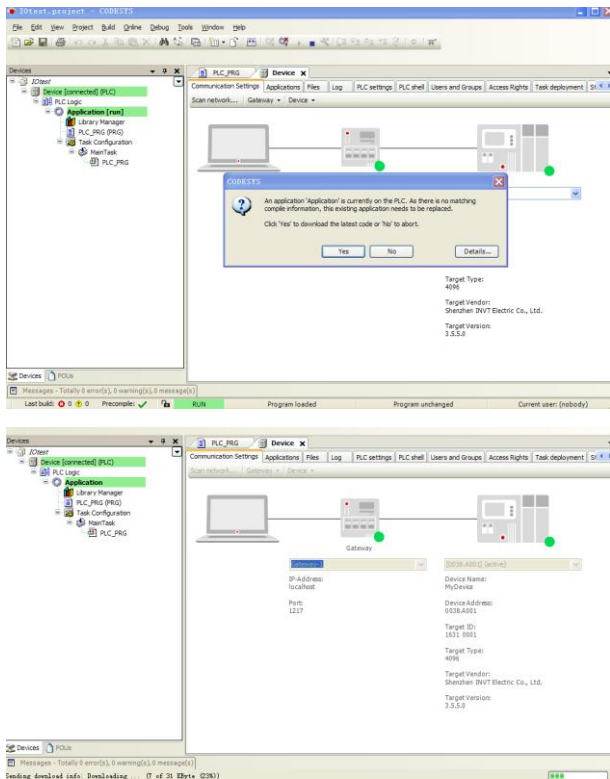

Figure 3-10
3. Click LOGIN/LOGOUT to download the PLC program, as shown in Figure 3-10.